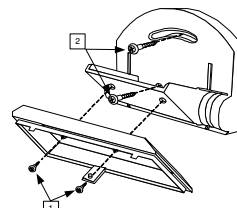

Fig. 8
4. Mount the Wireless VITRON on the required location (wall or ceiling) using the supplied screws (2, Fig 8). Do not tighten the screws.